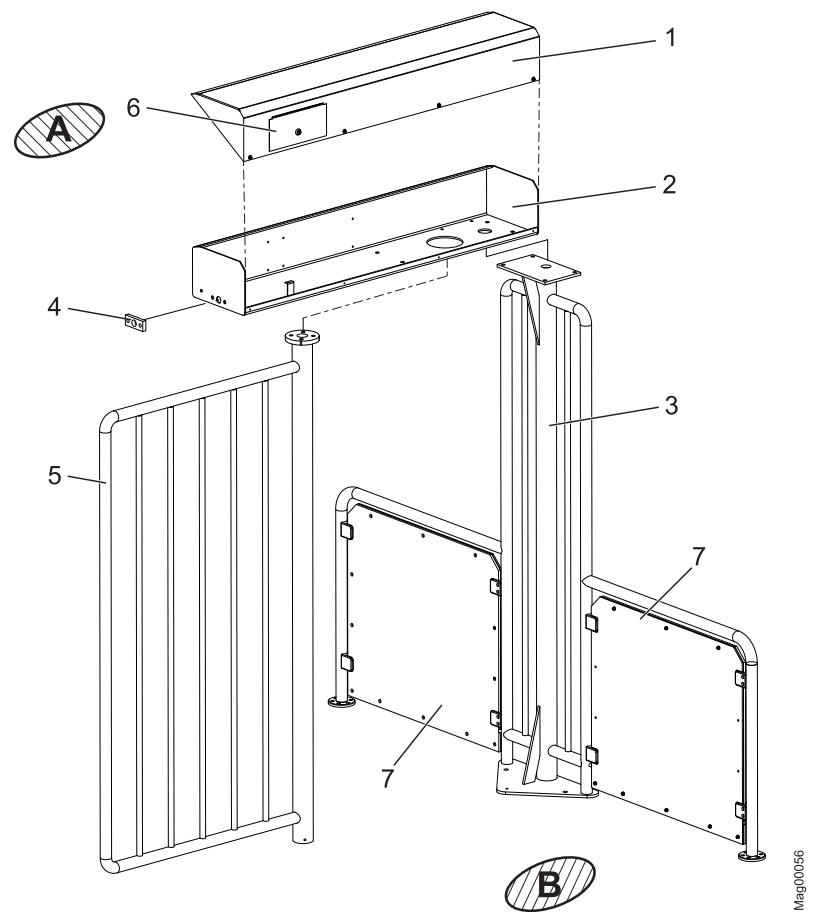

Fig. 7: Mounting the swing door MPG-162
4. Pull the power cable and any control cables completely through the base to which the revolving wing is to be fastened (Fig. 7, Pos. 3).
4. Mount the support beam (Fig. 7, Pos. 2) onto the base for the revolving wing (Pos. 3) using a hoist.
6. Insert the connector (Fig. 7, Pos. 4) and bolt to the side element (e.g. building wall or turnstile MPT).